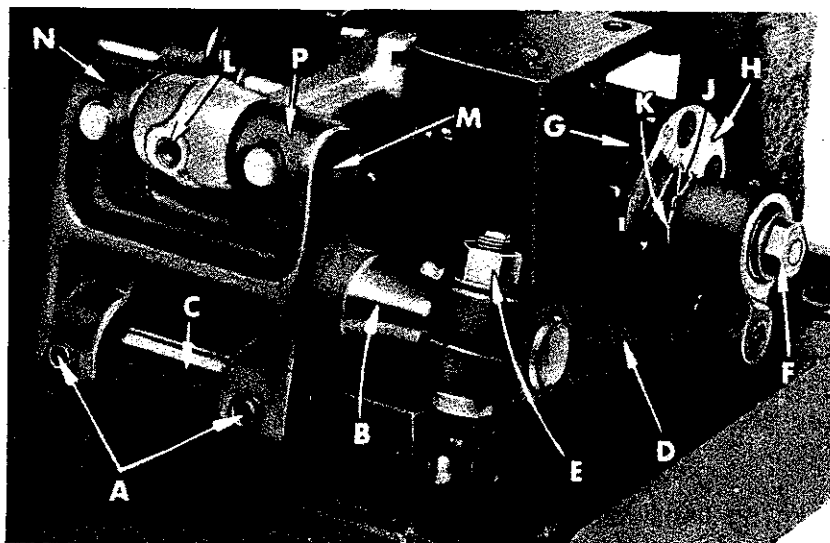

Fig. 11
Right to left adjustment can be made by loosening screws (A, Fig. 11) and slightly move feed rocker (B) on feed rocker shaft (C) as required, then retighten screws. Check to ensure that feed rocker arm (D) does not bind after adjustment.
Forward or rearward centering of feed dog can be accomplished by loosening nut (E, Fig. 11), move feed rocker (B) as required and retighten nut.
Set the stitch to required length. This is accomplished by loosening lock nut (F, Fig. 11) $\frac{1}{2}$ turn, (it has a left hand thread) on the end of the stitch regulating stud and turning stitch adjusting screw (G) located under the left end of the cloth plate in the head of the mainshaft (H), which is marked with "L" and "S". Turning the screw in a clockwise direction shortens the stitch (moves stitch regulating stud toward the "S") and turning it in a counterclockwise direction lengthens the stitch (moves stitch regulator stud toward the "L").
The feed rocker assembly may require lubrication and repair after years of operation. This can be accomplished as follows: Loosen nut (E, Fig. 11) and remove nut (F). Remove feed rocker arm (D) from machine by rocking slightly. Loosen screws (A) and remove stop collar on right end of shaft (C). Shaft can now be withdrawn. Loosen Allen screw (L) and remove shaft (M). Now repack bearings.
When packing bearings, parts must be clean and grease should be applied directly from the tube to avoid contamination. Tube of grease can be supplied under part No. 28604 P. Greased bearings are located at (N, P, Fig. 11). If -crease sealed bearings are replaced, they should be pressed in flush with the casting. To assemble, start tapered end of shafts first, twisting slightly when entering the grease seals to prevent damage. Check for proper adjustment of feed dog as described under the "Feed Dog Settings". Also check to see that there is no binding at any point.